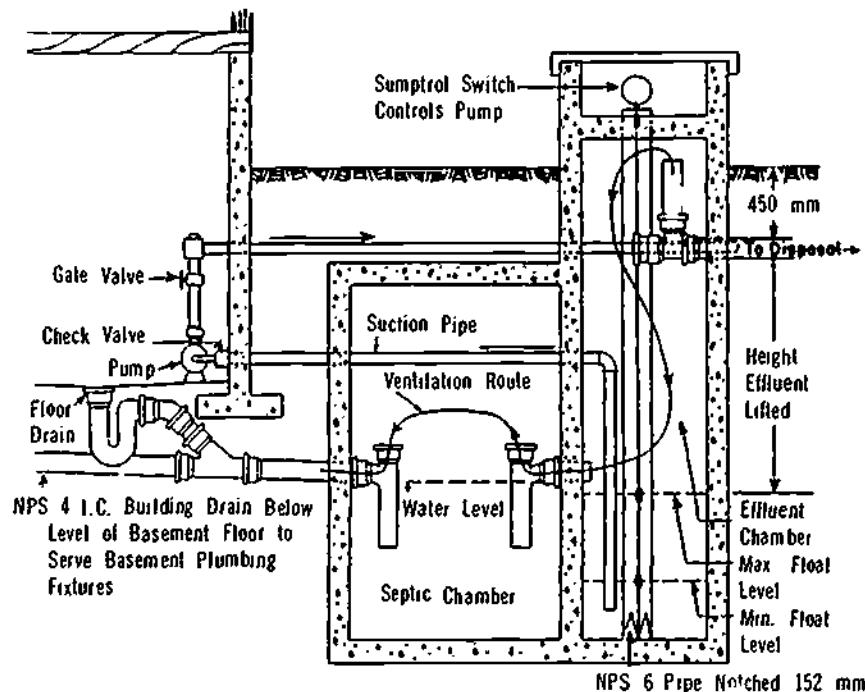

Figure 24-4. Pumping Effluent to Proper Disposal Level
d) If the basement fixtures of a building on level ground include a water closet, it is much more economical and trouble-free to install the septic tank low enough to receive the raw sewage by gravity, and to pump only the effluent up to the necessary disposal level (Figure 24-4). It is important that the pump be leak-proof.
e) This effluent pump is automatically controlled by two floats suspended from it on a fine stainless steel wire. This control is much the same as the control and floats used on many sump pumps. Figure 24-4 shows how the switch is set in a sealed chamber to protect it against corrosive conditions of the effluent chamber. It also illustrates the protective pipe for the floats, the venting of the